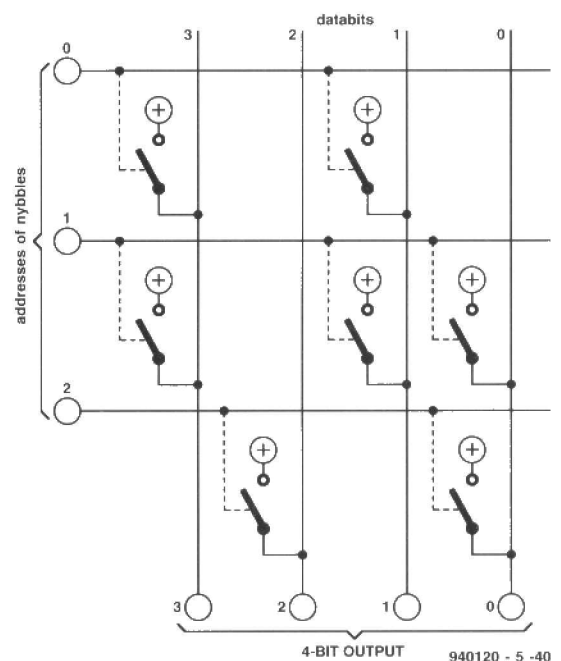

Fig. 40
With so many bits to store, it is essential for them to be organized in a systematic way and for us to have some means of accessing the particular bit or group of bits that we require. One of the ways in which this is done is shown in **Fig. 40**. The bits are organized into groups of four, so that one group represents a 4-bit binary number or code, known as a *nybble*. We have restricted the size of the group to four bits to make the diagram simpler. Although some ROMs do, in fact, access the bits in fours, it is more usual for them to be stored in groups of eight, known as *bytes*. In **Fig. 40**, there are four data lines (numbered 0 to 3), one for each of the bits in the nybble. There are three address lines (numbered 0 to 2), one for each of the nybbles stored in this ROM. Thus, the *organization* of the memory section of this very simple ROM is three nybbles, each of four bits. This makes a total of 12 memory units, or memory *cells*. The data for each nybble is stored in four cells.
To follow how data is read from the ROM, suppose we want to read the data stored at address 1. The address inputs are set to 01, and the decoder makes address line 1 go high. This address line has the control inputs of three voltage-controlled switches connected to it as shown in **Fig. 40**. All three switches are closed when address line 1 is made high. This connects data lines 0, 1 and 3 to the positive supply rail. Data line 2 has no switch, so it is not connected to a data line. The result is that the output of the ROM becomes 1011, which is the data stored at address 1.
1. What data is stored in nybble 2 in Fig. 40?
2. Design an address decoder for the ROM of Fig. 40, in which none of the address lines are made high when the input is 11.